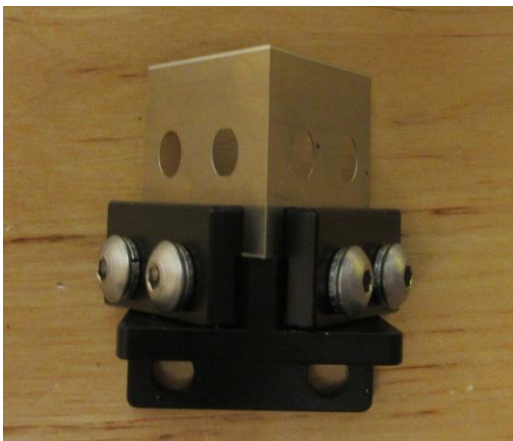

Figure 5.1.3
- Once the insert is removed you will have access to the blade clamp screws holding the blades in place using a 3/32" hex key wrench. (*T-handle preferred*), *Figure 5.1.3*